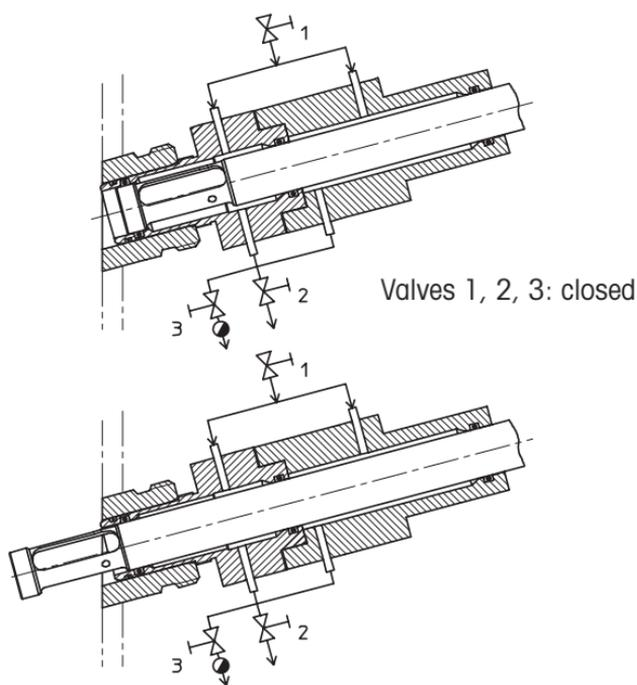

Figure 2 "Installation of valves"
All valves (see Fig. 2) must be closed while the moving part of the housing is travelling forwards or backwards, otherwise the reactor contents can escape through the lower rinsing chamber.
4.7 Connecting the sterilizing and flushing lines (see Fig. 2)